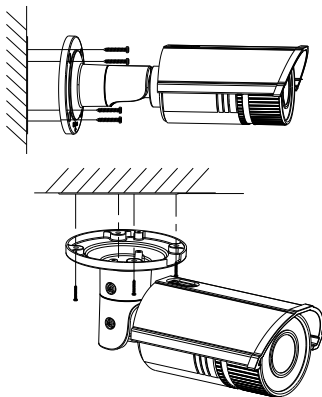

Figure 2-5 Secure the Camera
5. Secure the camera to the wall (or ceiling); use with expansion anchors if needed. Refer to the Figure 2-5. Be sure surface can support camera plus any additional wind or snow/ice loading. The surface should support at least three times the weight of the camera.